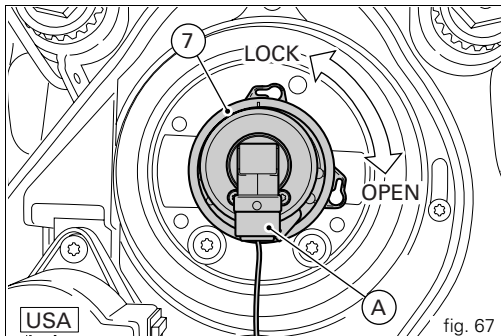

fig. 67
To remove the low beam headlight bulb (7), detach the connector (A) from the wiring, then turn the bulb counter-clockwise to remove it (fig. 67). Replace with a bulb of equal rating. When fitting the new bulb, turn it clockwise to lock it in the holder.